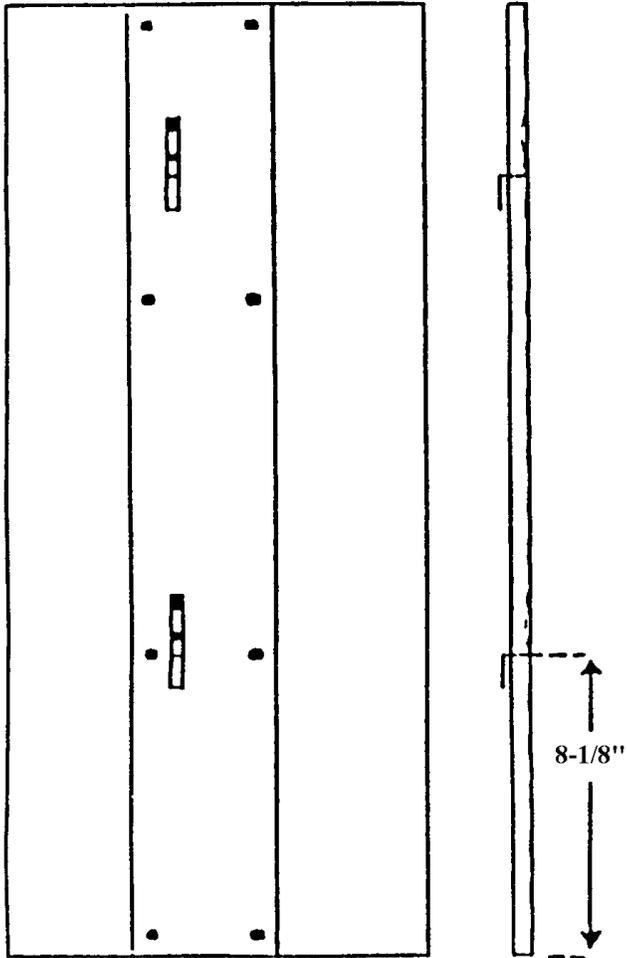

FIGURE 1
- A. See Figures 1 and 2 on the next page for identification.